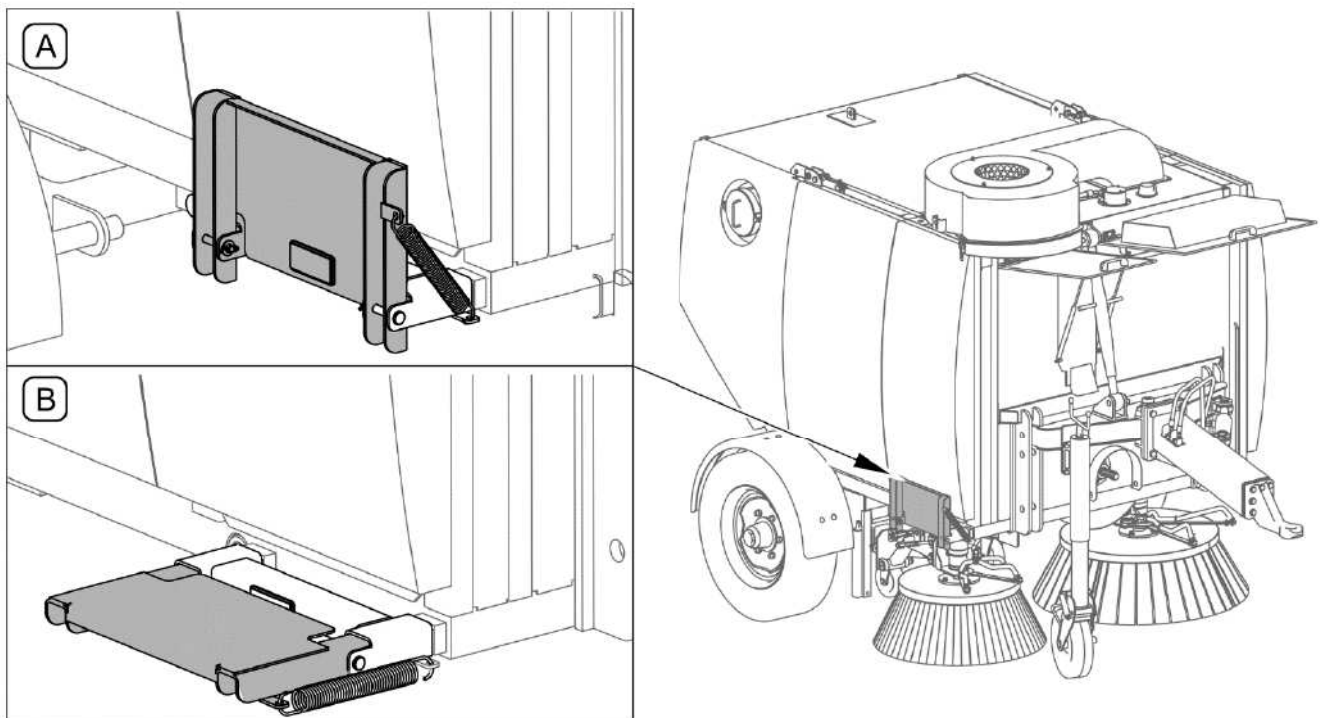
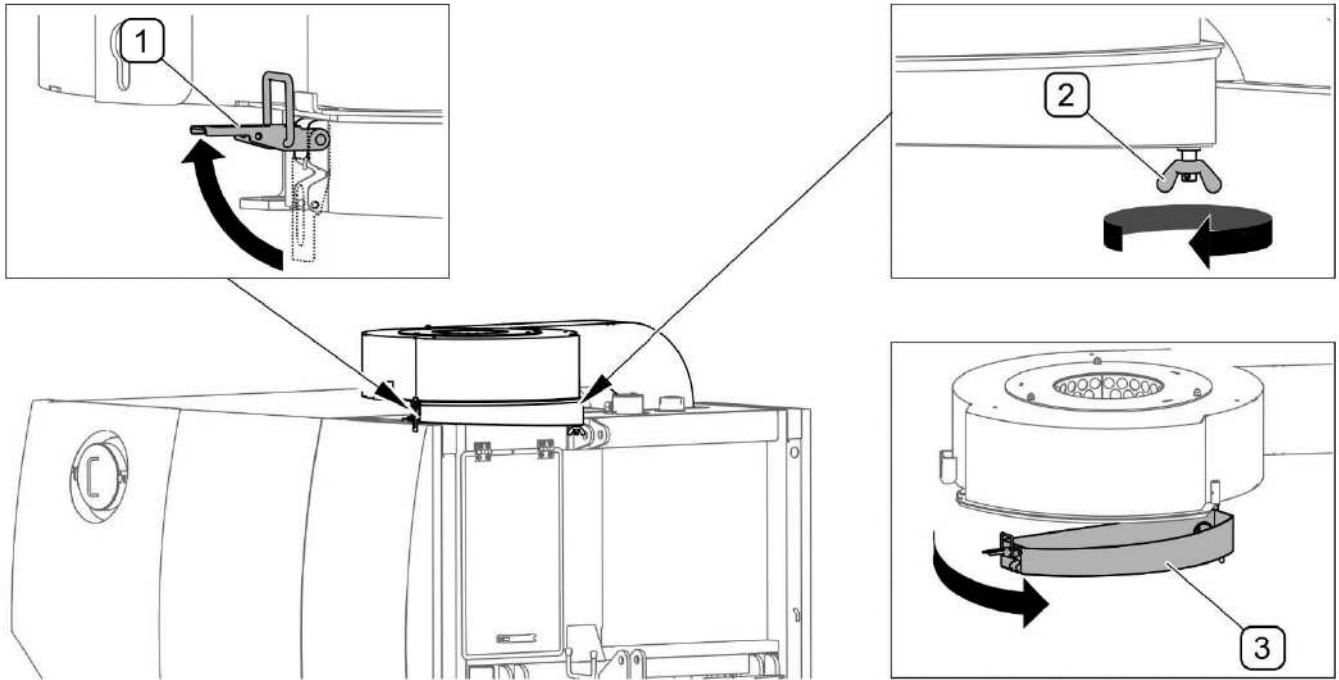

FIG. 5.33 **Folding platform**
FIG. 5.34 **Cleaning the cyclone**
Periodically check the condition of the separating cyclone located on the air outlet of the waste tank (FIG. 5.34). In order to facilitate maintenance of the cyclone extend folding platform (FIG. 5.33) secured on the right side to the machine frame.
After maintenance is completed platform (FIG. 5.33) should be folded to (A) position.
(1) - lock; (2) - hinge nut; (3) - bottom cover
To clean the cyclone (FIG. 5.34) unhook the lock (1) of the bottom cover, loosen the hinge nut (2) and then tilt the cover (3) forward on the hinge. Clean the inside of the bottom cover (3) and check that suction hose is not blocked. After cleaning, close the cover (3), tighten the hinge nut (2) and secure the lock (1).